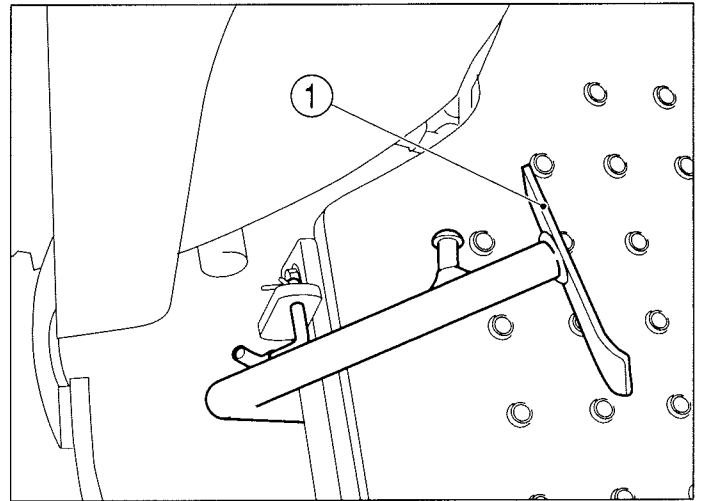

FIG. 18
FIG. 18: Foot pedal (1) disengages engine from transmission when fully depressed, to permit engine starting, selecting/changing gears and stopping Tractor movement. PTO and four-wheel drive selection (if equipped) also requires clutch disengagement. Slowly raising the pedal will engage clutch and resume power to transmission and PTO.